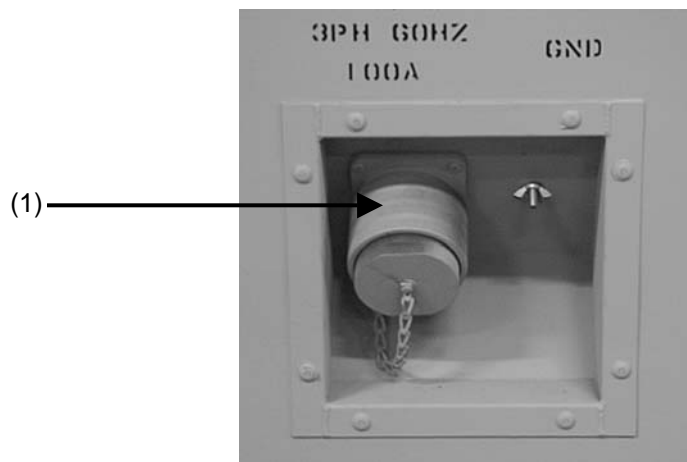

Figure 2-18. Power Input Receptacle
- b. Connect cable assembly (from Generator or external power source) to container INPUT plug inlet connector (1) (Fig. 2-18) of 120/208 VAC, 3 phase, 60 Hz power input panel and turn locking collar clockwise until connection is secure.